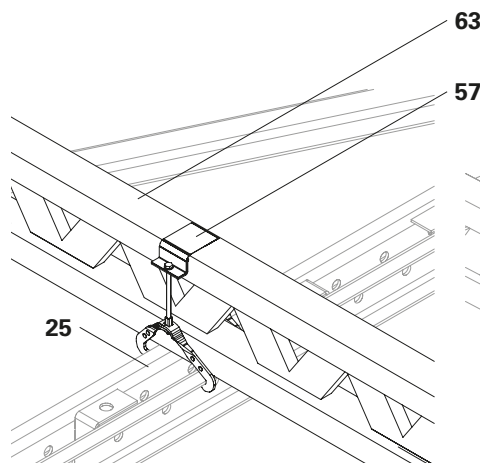

Fig. A6.02
1. Fix lattice girder (**63**) to the steel walers (**25**) using hook straps (**57**). (Fig. A6.02)